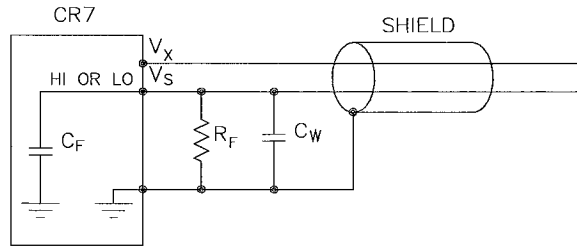

FIGURE 13.3-8. Measuring Input Settling Error with the CR7
- Use the CR7 to measure the input settling error associated with a given configuration. For example assume long leads are required but the lead capacitance, C_W , is unknown. Configure R_f on a length of cable similar to the measurement. Leave the sensor end open as shown in Figure 13.3-8 and measure the result using the same instruction parameters to be used with the sensor. The measured deviation from 0V is the input settling error.